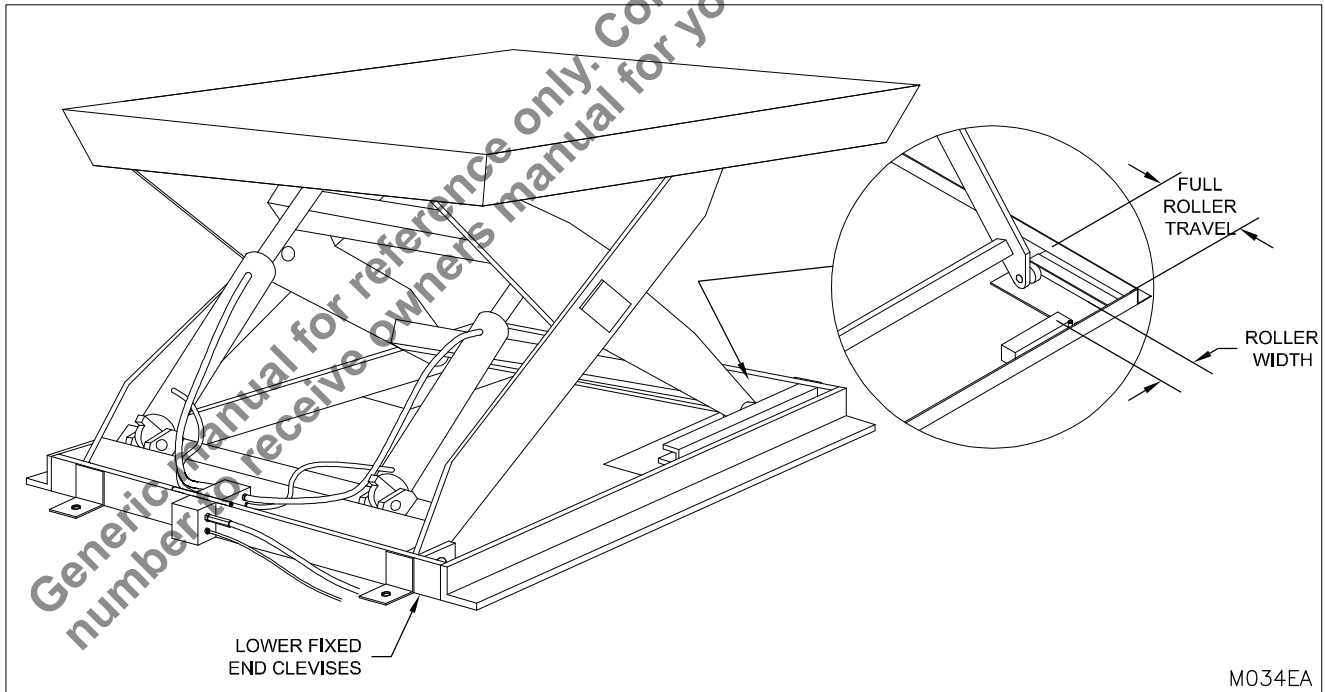

Figure 6: Shim Beneath the Fixed End Clevises and Full Roller Travel
8. If required, level the unit on both sides by shimming under the frame angle for the full roller travel, lower fixed end clevises, and lag brackets. (See “Figure 6: Shim Beneath the Fixed End Clevises and Full Roller Travel” on page 7)
15. If required, level the unit on both sides by shimming under the frame angle for the full roller travel, lower fixed end clevises, and lag brackets (See "Figure 6: Shim Beneath the Fixed End Clevises and Full Roller Travel" on page 7). Recheck the lift table for level and squareness in the pit.